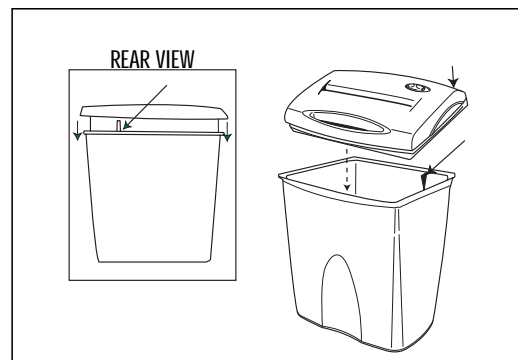

Figure 1
1. Position shredder head over basket as shown in Figure 1.